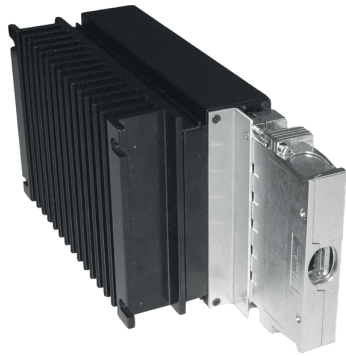

Fig. 48
- Different cable hoods for H15 connectors (fig. 48):